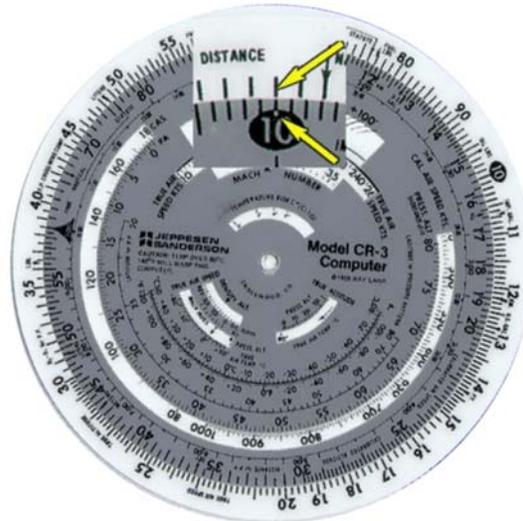

Figure 4.3-30 Fuel Conversion 3
2. Find 64 (6.4#) on the POUNDS (outer) scale and place it over 10 on the GALLON (inner) scale. (Figure 4.3-30)